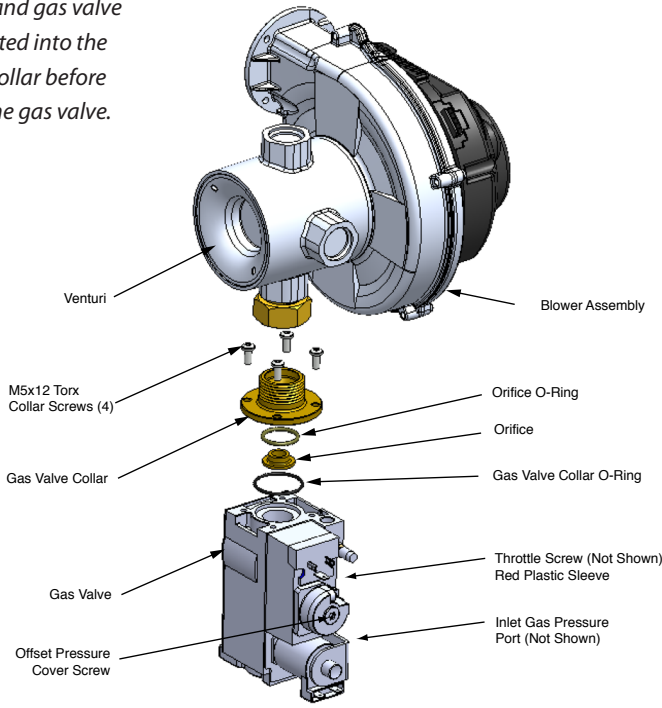

Fig. 18 - Gas Valve / Venturi Assembly - PRESTIGE Solo 299/399 (1)
- Prior to start up, ensure the unit is set to fire propane. Check the rating label for the type of fuel. Check the gas valve for propane conversion label. If there is a conflict or doubt on the burner set up, remove the gas valve and check for the propane orifice, see Fig. 16, Fig. 17 or Fig. 18 on page 31.